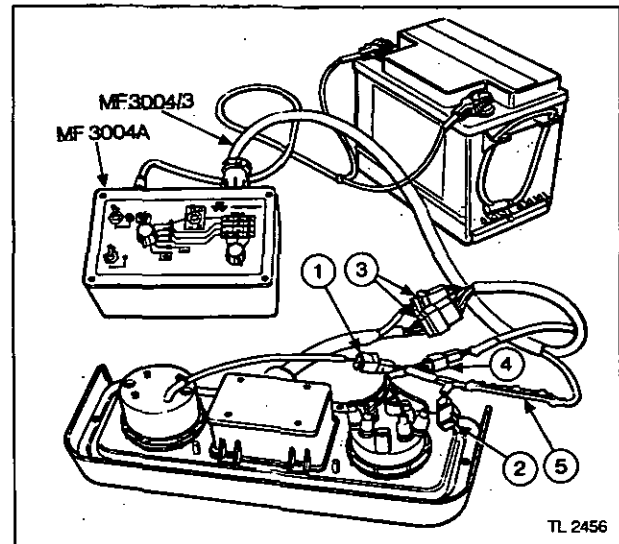

Fig.6
5. Connect the test lead MF.3004/3 from the MF.3004A Instrument Panel Tester to the four plugs on the back of the panel (see Fig.6). If an electronic tachometer is fitted, ensure that the correct labelled lead is connected to the tachometer.